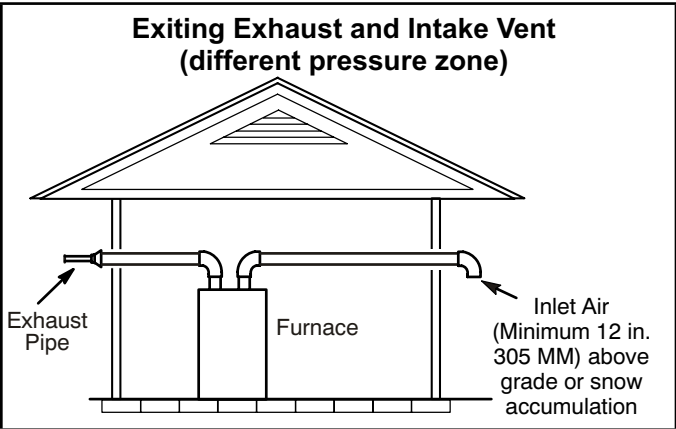
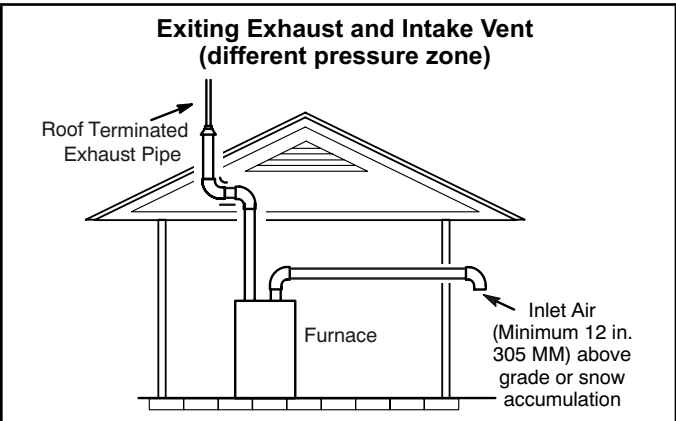

FIGURE 38
FIGURE 39
- 1 - Intake and exhaust terminations are not required to be in the same pressure zone. You may exit the intake on one side of the structure and the exhaust on another side (FIGURE 38) you may exit the exhaust out the roof and the intake out the side of the structure (FIGURE 39).